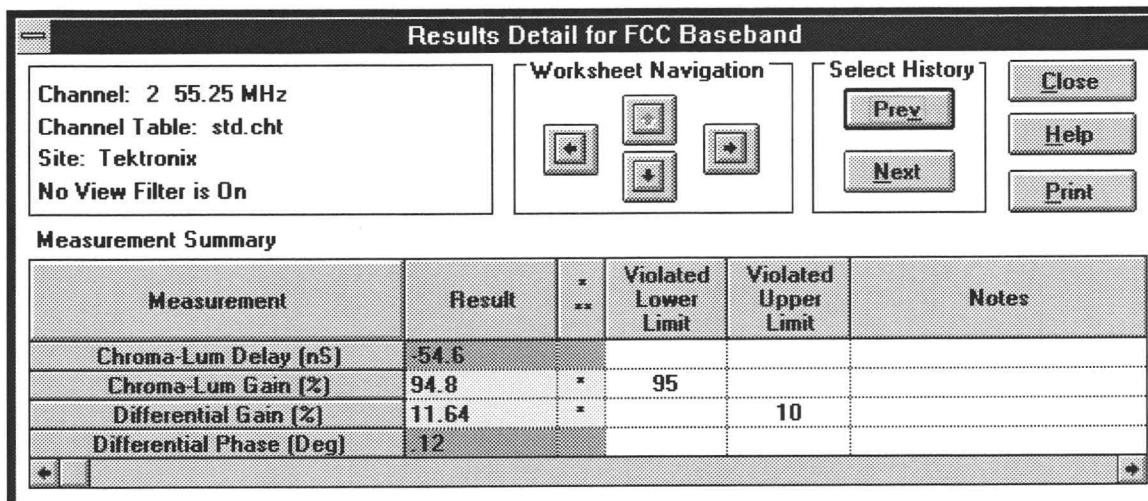

Figure 4-22. The Result Detail dialog box. (This is not for a passing result but for one in caution.)
2. Choose the Results command button from the Button Bar. See Figure 4-22 for the dialog box.